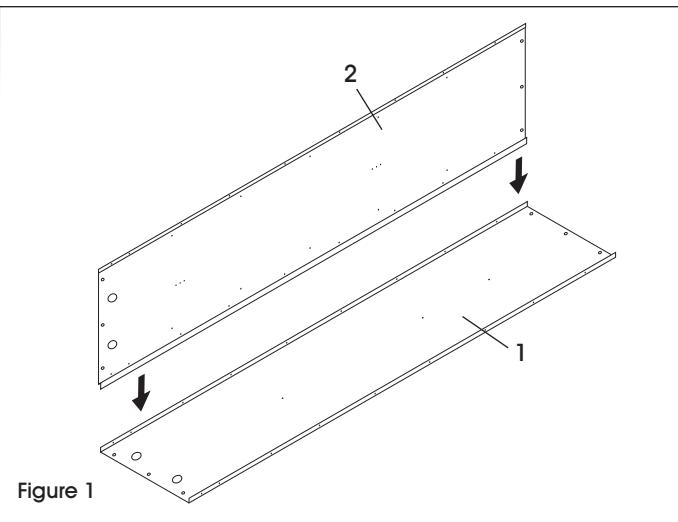

Figure 1
1. Place back panel (1) on a protected flat surface so that the flanges face upward.
2. Bolt side panel (2) to back panel, making sure side panel fits within the flange of the back panel. (See Figure 1) The ends of the back and side panels with the two large holes are at the bottom of the locker.